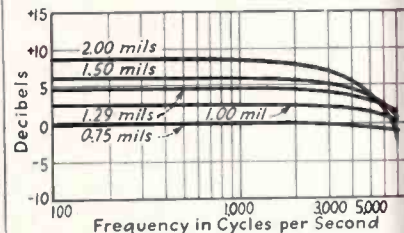

Fig. 5—Relative response of slit-image plotted against frequency
It has been well known that with a necessarily finite slit-image height, H , the relative response falls off with increasing frequency as shown by the curves of Fig. 5. It is logical, then, to determine the slit-image height which will present maximum relative response
Each curve in Fig. 5 was obtained selecting an H value, and solving (4) with various frequencies substituted therein. These curves show that only the 1.29 mil slit-image dimension will give maximum response at 7 cps. Other values of H , whether larger or smaller, produce less response that cut-off frequency, verifying efficacy of Eq. (5).